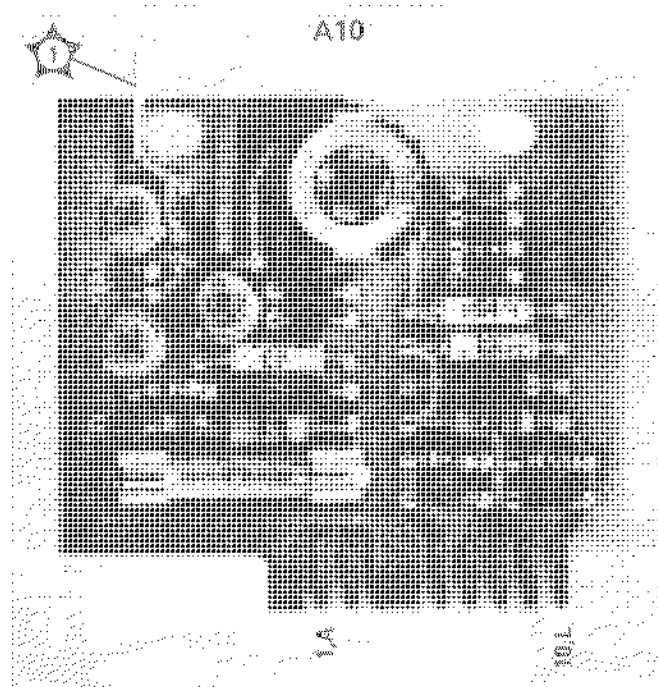

Figure 8-46. Power Supply Assembly A10 Component Locations (Part of CHANGE 3)
► Replace Figure 8-46 with Figure 8-46 shown in this supplement.